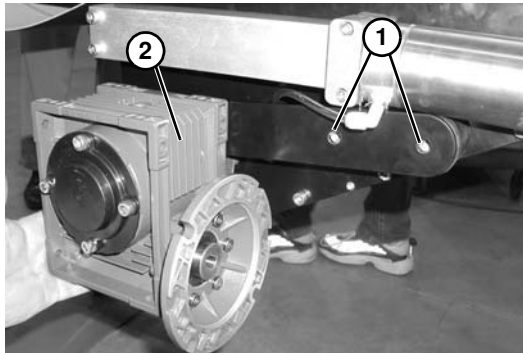

Figure 168
3. Remove screws (**Figure 168, item 1**) and remove gearmotor assembly (**Figure 168, item 2**) (gearhead shown with motor removed for clarity, motor can remain attached to gearhead).